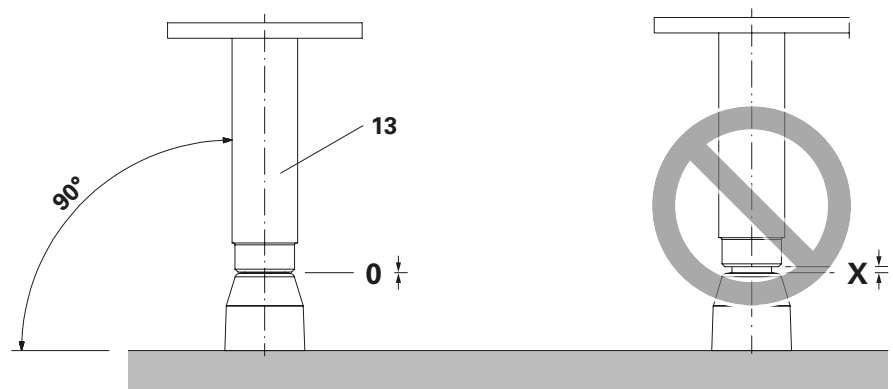

Fig. A5.03
4. Screw in Anchor Sleeve M24 (**13**) as far as possible, at 90° to the formwork panel. (Fig. A5.03)